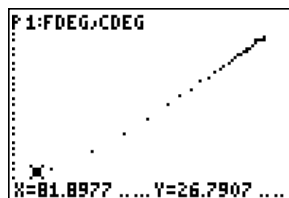

Figure 24
- Press $\left(\square\right)$, and select option 7:ZoomStat from the ZOOM menu to explore the data on the plot (Figure 24).